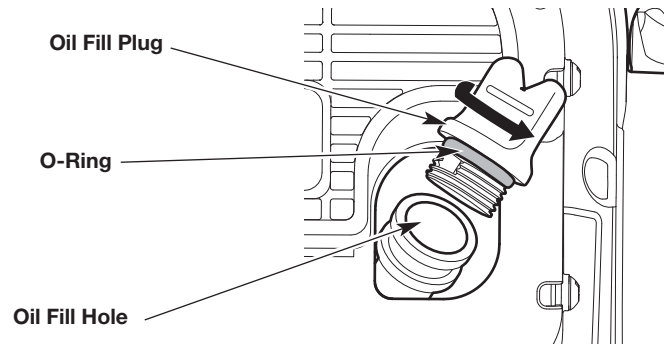

Fig. 11
3. Clean the area around the oil fill plug (Fig. 11) to prevent debris from entering the oil fill hole.
NOTE: Make sure the O-ring is in place on the oil fill plug (Fig. 11).
1. Clean the area around the oil fill plug (Fig. 11) to prevent debris from entering the oil fill hole.